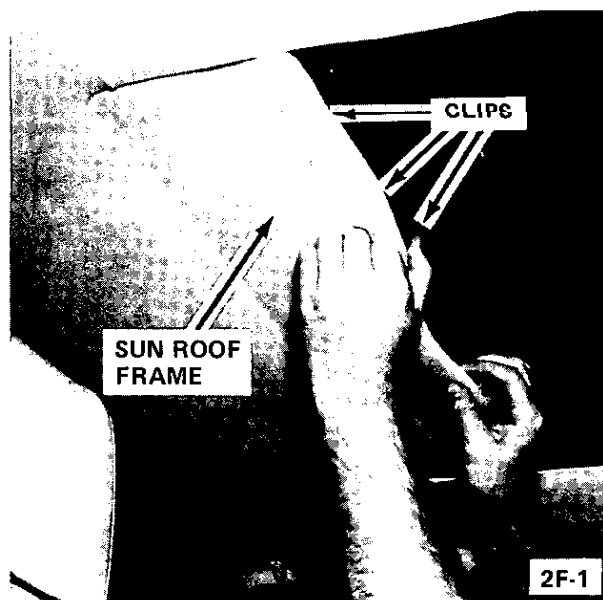

Figure 2F-1 Separating Sun Roof Frame From Sun Roof Panel
1. Open sun roof to half open position and pry apart sun roof frame from sun roof panel (see Figure 2F-1).